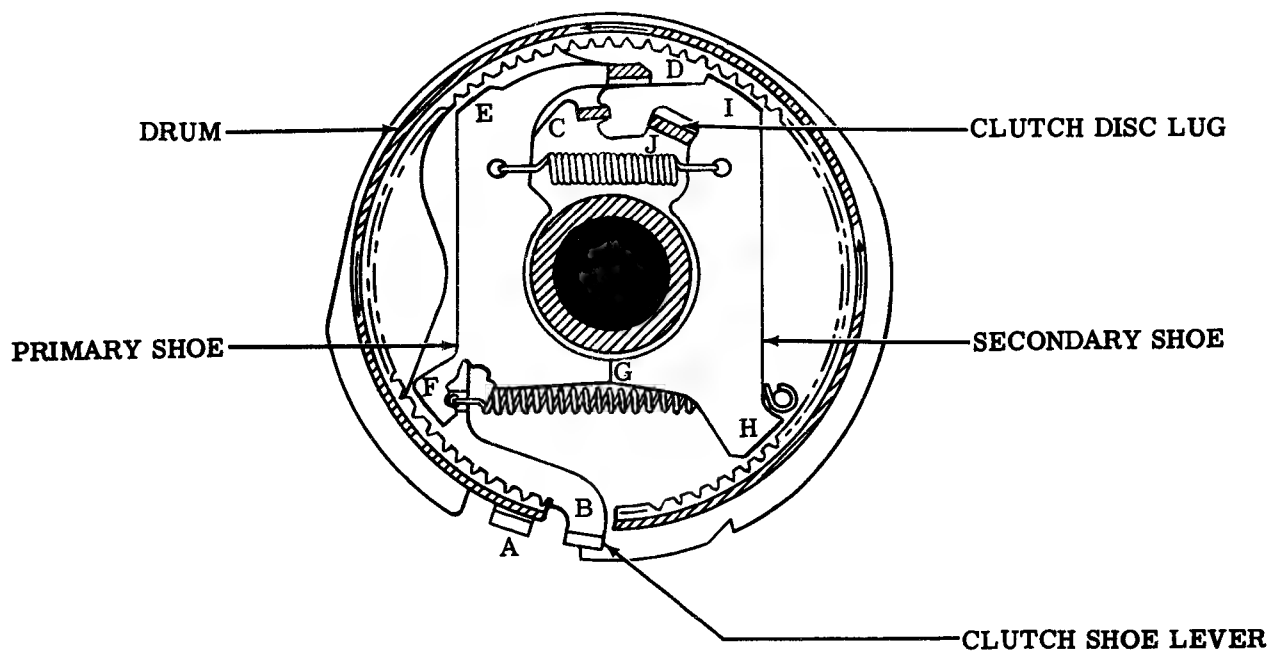

Figure 19 - Clutch — Disengaged
5.02 The clutch is disengaged (Figure 19) by bringing together lug A on the clutch cam disc and the lower end of the clutch shoe lever B. The upper end of lever B pivots about its ear C and allows its other ear D to move toward the right. The upper spring then pulls the two shoes together and away from the drum.